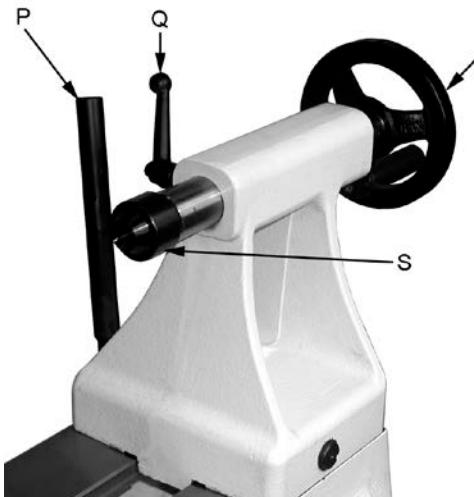

Fig 33
Turn the hand wheel (R, Fig 33) clockwise to move tailstock spindle forward. Lock tailstock spindle with the indexable knob (Q). The handle (P) locks the tailstock in position on the bed.